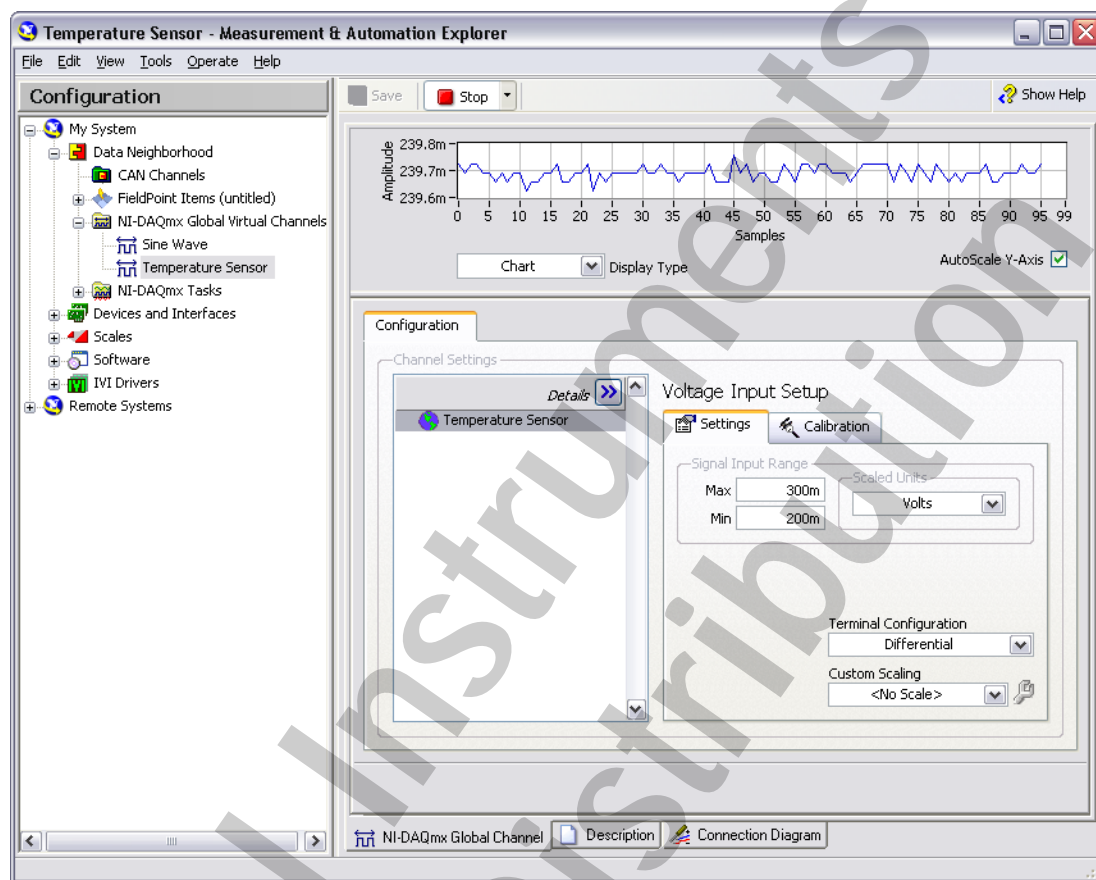

Figure 2-6. Temperature Sensor NI-DAQmx Global Virtual Channel
6. Name the channel **Temperature Sensor**. Click **Finish**. A similar channel configuration, as shown in Figure 2-6, should appear in MAX.